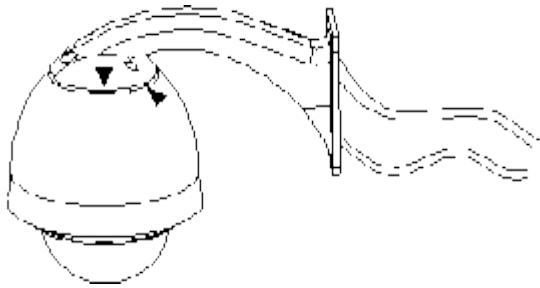

Figure 12
f) Lock the housing as Figure 12.